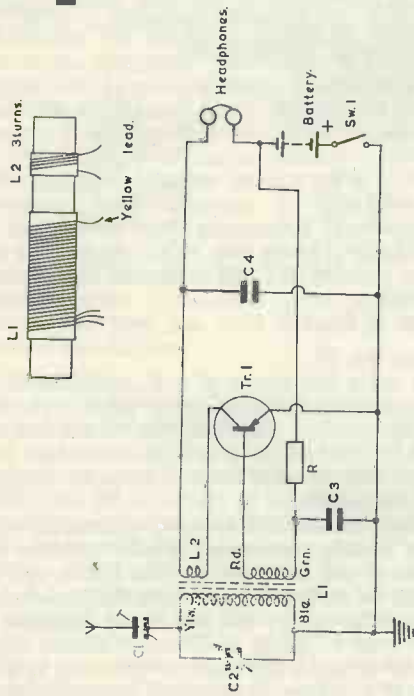

Fig. 29. Circuit No 19. Single transistor regen. detector.
The circuit shown in Fig. 29 is that of a very simple single transistor receiver. The signal is picked up by the aerial and selected by the tuned circuit in the normal way. It is coupled to the transistor via the secondary of the aerial coil. Since the transistor is biased to a low level of collector current the input is fairly non linear, that is to say, a negative signal is amplified more than a positive one, and a certain amount of detection takes place and gives rise to an amplified A.F. signal in the collector. A certain amount of R.F. amplification also takes place, however, and this is coupled back to the tuned circuit by means of L_2 . It is then added with the input signal and contributes to the output. If it were not for this regeneration the et
There are quite a large number of methods of controlling regeneration or feedback and this circuit shows an alternative to that of Fig. 29. Apart from the methods of feedback the two circuits are virtually identical and will give the same performance.
- L_2 —as in fig. 29.
- L_2 —as Fig. 29.